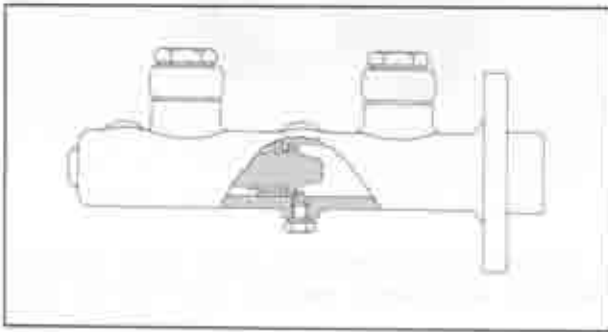

Fig. 11-12 Installing set bolt
5. Fit the primary cup and secondary cup onto the primary piston as shown in Fig. 11-12.